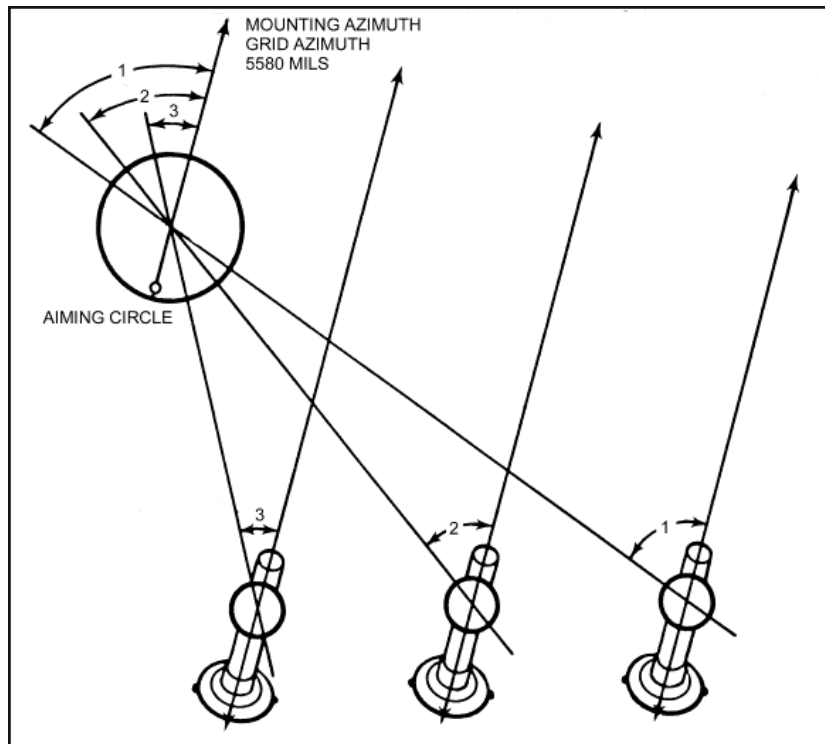

Figure 2-29. Mortars laid parallel in the desired azimuth.
(8) The gunner repeats the announced deflection, "Number two, deflection one nine nine eight," and places it on his sight. Assisted by the assistant gunner, he lays the mortar so that the vertical line is once again laid on the center of the aiming circle after the gunner announces, "Number two, ready for recheck."
(9) Using the upper motion, the platoon sergeant (section sergeant) again lays the vertical cross line of the aiming circle on the lens of the mortar sight. He reads the new deflection from the azimuth and micrometer scales and announces the reading--for example, "Number two, deflection two zero zero zero."
(10) The gunner repeats the new deflection (Number two, deflection two zero zero zero) and places it on his sight. Assisted by the assistant gunner, he lays the mortar with the vertical cross line of the sight on the center of the aiming circle and announces, "Number two, ready for recheck."
(11) The above procedure is repeated until the mortar sight and aiming circle are sighted on each other with a difference of not more than ONE mil between the deflection readings. When so laid, the gunner announces, "Number two (one or three), zero mils (one mil), mortar laid." The mortar barrel is now laid parallel to the 0-3200 line of the aiming circle.
(12) The platoon sergeant (section sergeant) uses the same procedure to lay each of the other mortars in the section parallel. When all mortars are parallel to the 0-3200 line of the aiming circle, they are parallel to each other and laid in the desired azimuth (Figure 2-29).